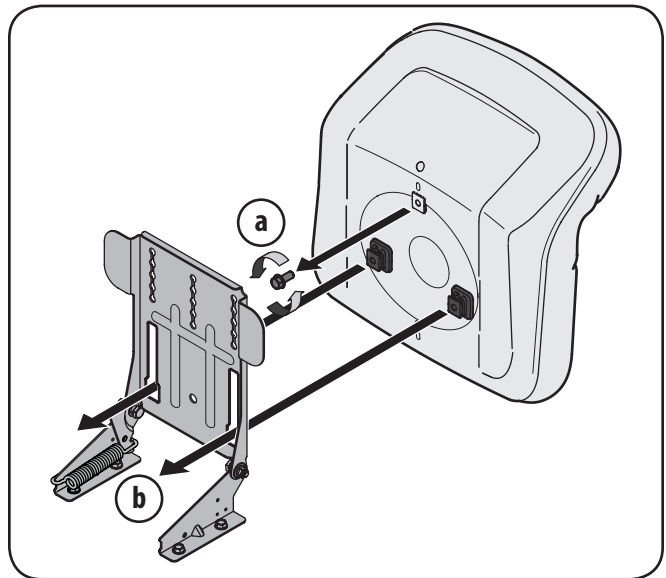

Figure 3-5
1. Remove the hex screw (or knob screw if applicable) from the bottom of seat. See (a) in Figure 3-5.
2. Position the seat facing forward over the seat pivot bracket, with the two forward seat mount tabs fitting into the provided grooves in the seat pivot bracket. See (b) in Figure 3-5.